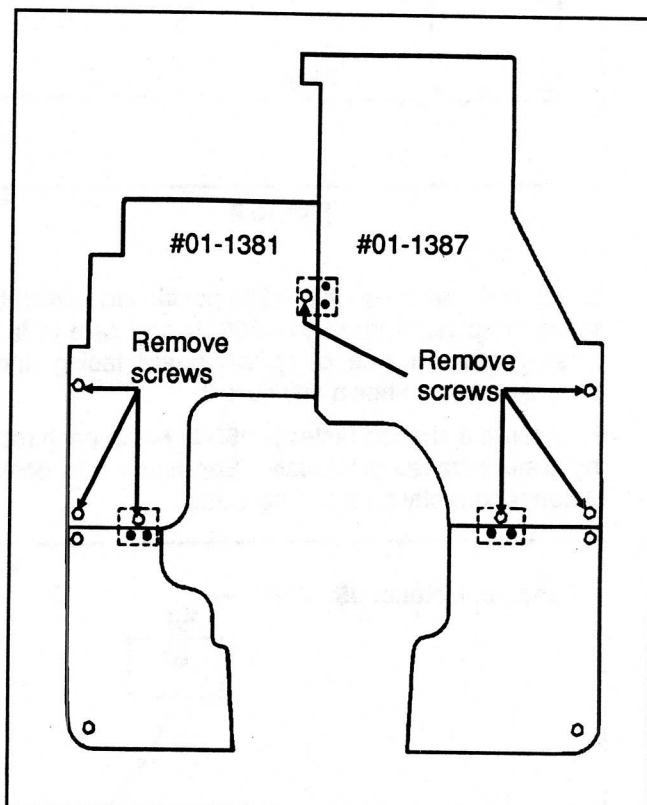

Figure 1
2. From access under vehicle, remove the four screws retaining splash guard #01-1387 (see fig. 1), then remove splash guard from this area. Do not discard screws and washers.